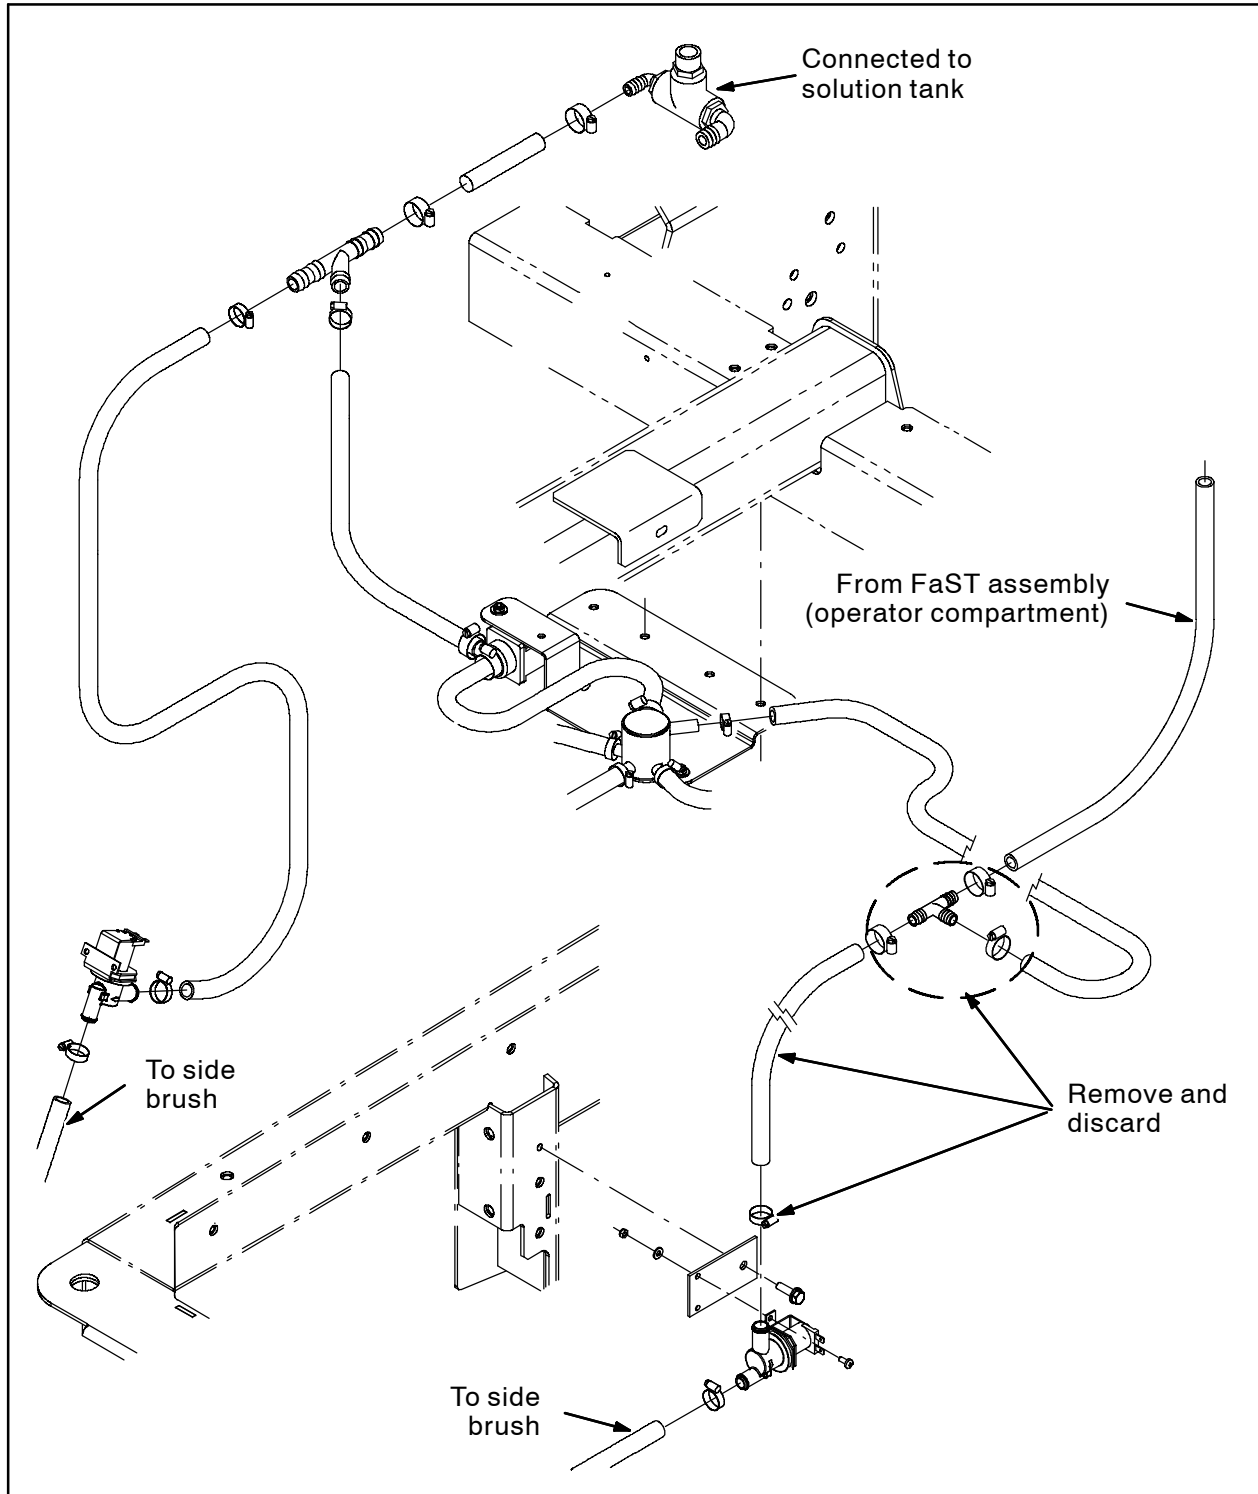

FIG. 1
1. Disconnect the hoses and wire harness from the FaST assembly and remove the entire FaST assembly from the machine. Discard the FaST assembly and hardware. Refer to Fig. 1.
2. Remove the hoses and components labeled in Fig. 1 and discard the hoses and hose clamps.